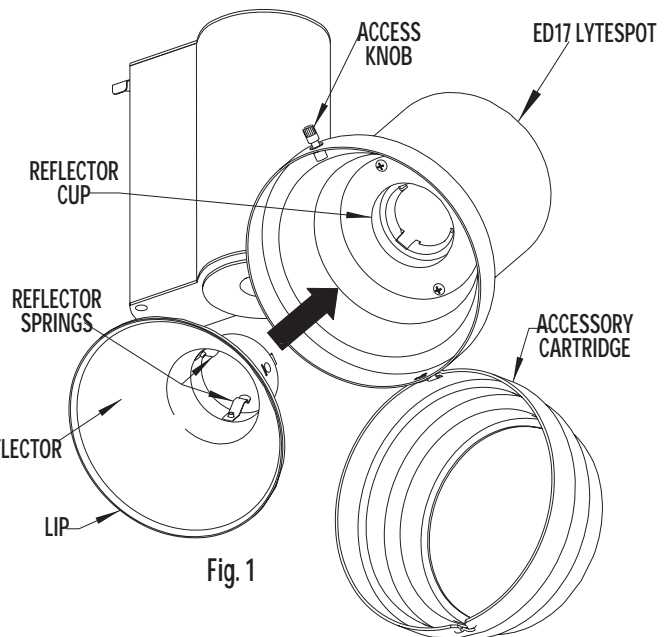

Fig. 1
1. If Lytespot is already attached onto a track, make sure power to the track is turned off before proceeding. (Lytespan Track luminaire is shown in Figs. 1 & 2. Instructions 2-4 are the same when using Calculite luminaire.
2. Holding ACCESSORY CARTRIDGE, loosen ACCESS KNOB a few turns until ACCESSORY CARTRIDGE opens. SWING the CARTRIDGE open for access to REFLECTOR CUP (See Fig. 1).